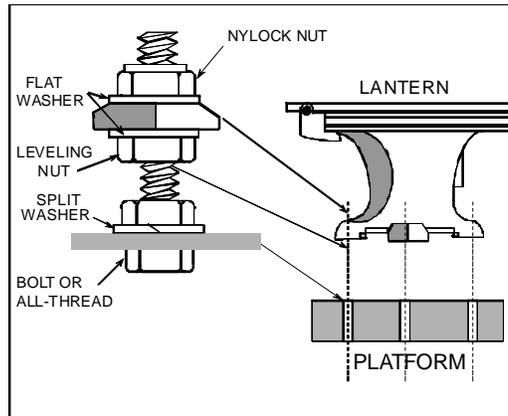

Figure 3-13
- a. Install three ½" threaded rods or bolts on the platform as shown in Figure 3-13 (only three of the four holes in the base are used). Add the leveling nut and flat washer at this time.